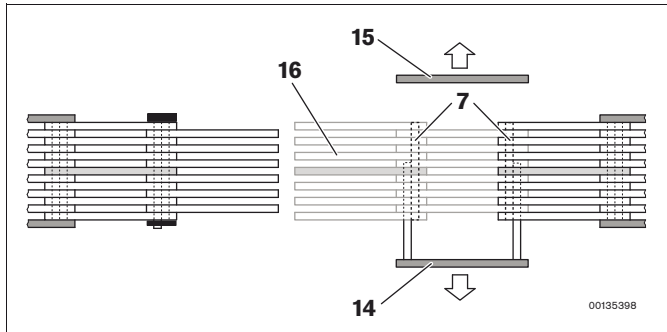

Fig. 12: Removing individual parts to shorten
3. **Shortening:** Remove the welding plate (14), both rolling pivots (7), the single link plate (15) and the section of the inverted tooth chain (16) (see Fig. 12).